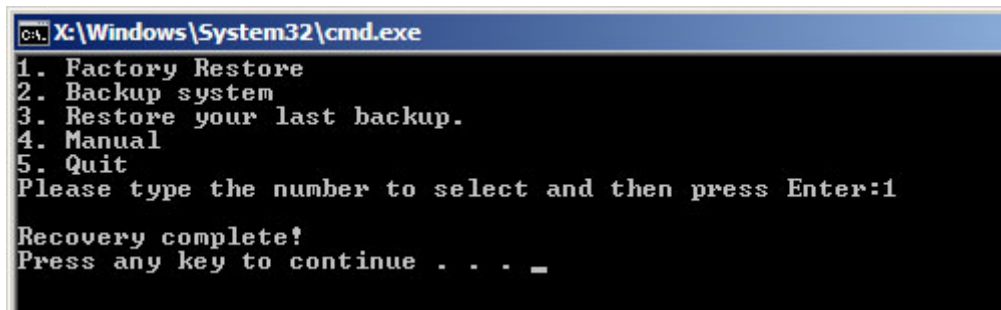

Figure B-35: Recovery Complete Window
Step 3: The screen shown in **Figure B-35** appears when completed. Press any key to reboot the system.